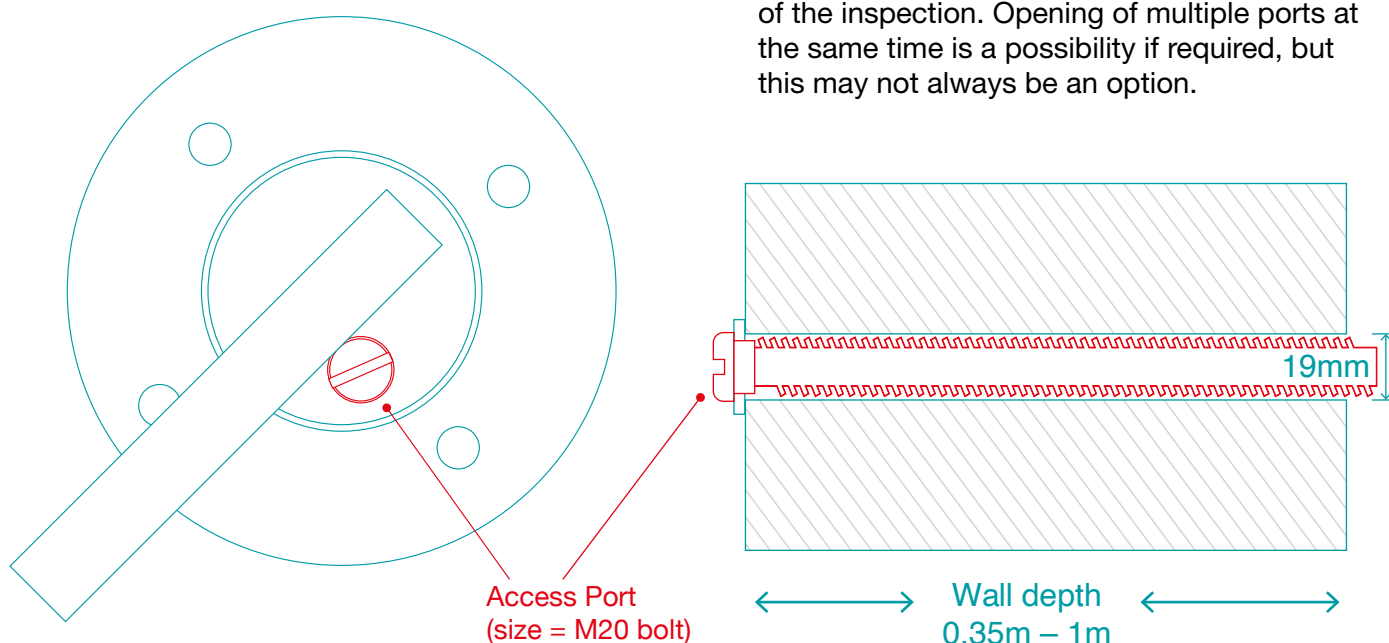

Figure 3: Access port details
- Able to fit through a 19mm diameter access port, through 0.35m – 1m of concrete (see Figure 3);